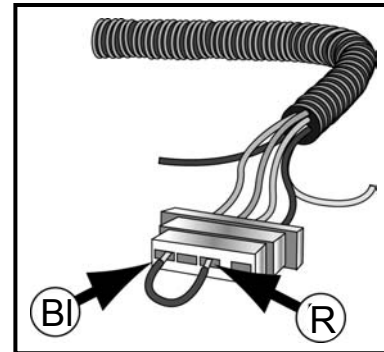

Figure 24 - Jumping power wire to field.
2. Insert the end of a short length of electrical wire to the RED connector slot of the regulator harness and the other end of the wire to the BLUE connector slot. (See Figure 24.) This bypasses the regulator and tests the alternator and the harness.